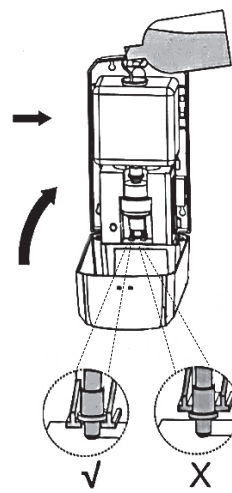

figure 3
5. Make sure that the syringe is properly mounted (figure 3).